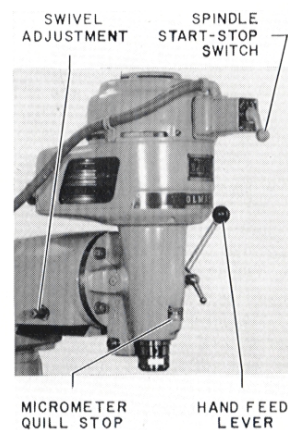

Figure 19B
**Manual Feed to Head, 1A** — Vertical movement of the quill is controlled by the hand feed lever shown in Figure 19B. The hand feed lever is adjustable and of directional design. Pulling downward on the lever results in the spindle moving in a downward direction. For adjustment, pull out on the hand feed lever for disengagement and engage the clutch teeth to a desired position.